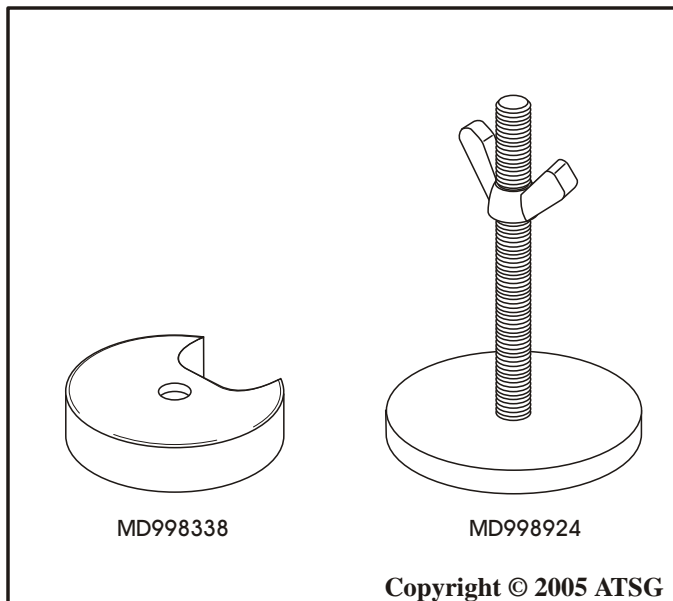

Figure 51
60. Using the special tools shown in Figure 51, or substitute, compress low/reverse clutch piston return spring.